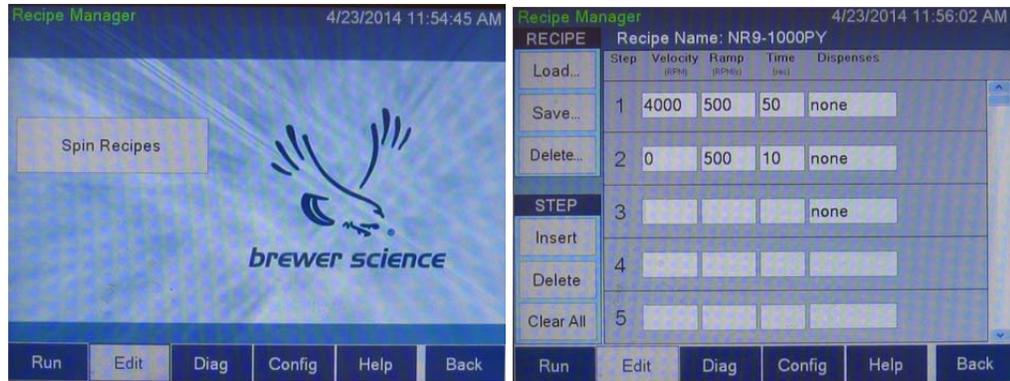

Figure 2
2. Click on “Edit” from the bottom of the screen (Figure 2 left). Then click on “Spin Recipes”. The “Recipe Manager” screen will show up (Figure 2 right).